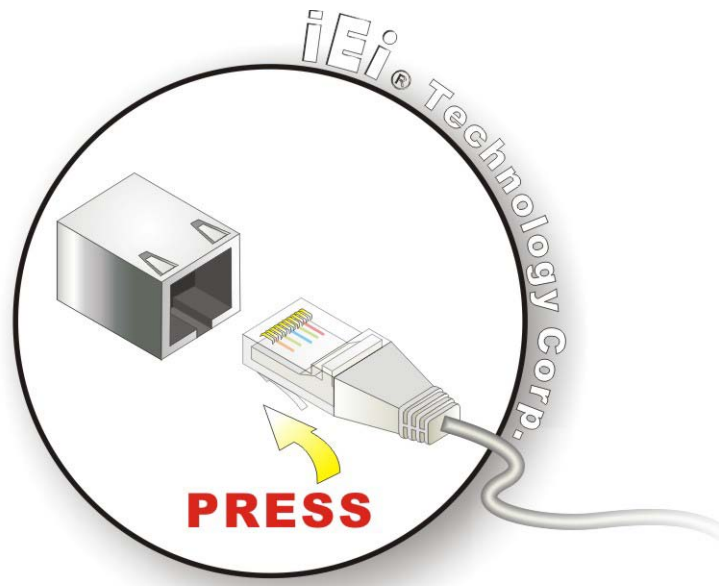

Figure 4-18: LAN Connection
Step 2: Insert a USB Series "A" plug. Insert the USB Series "A" plug of a device into the USB Series "A" receptacle on the external peripheral interface. See Figure 4-18.